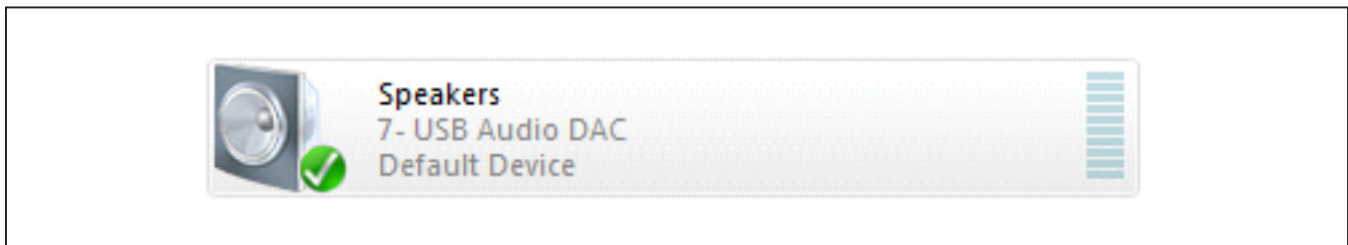

Figure 3. Playback Device
- 16) Open the Windows **Sound** dialog and select the **Playback** tab. A **USB Audio DAC** item, similar to Figure 3, should be listed as an available playback device.